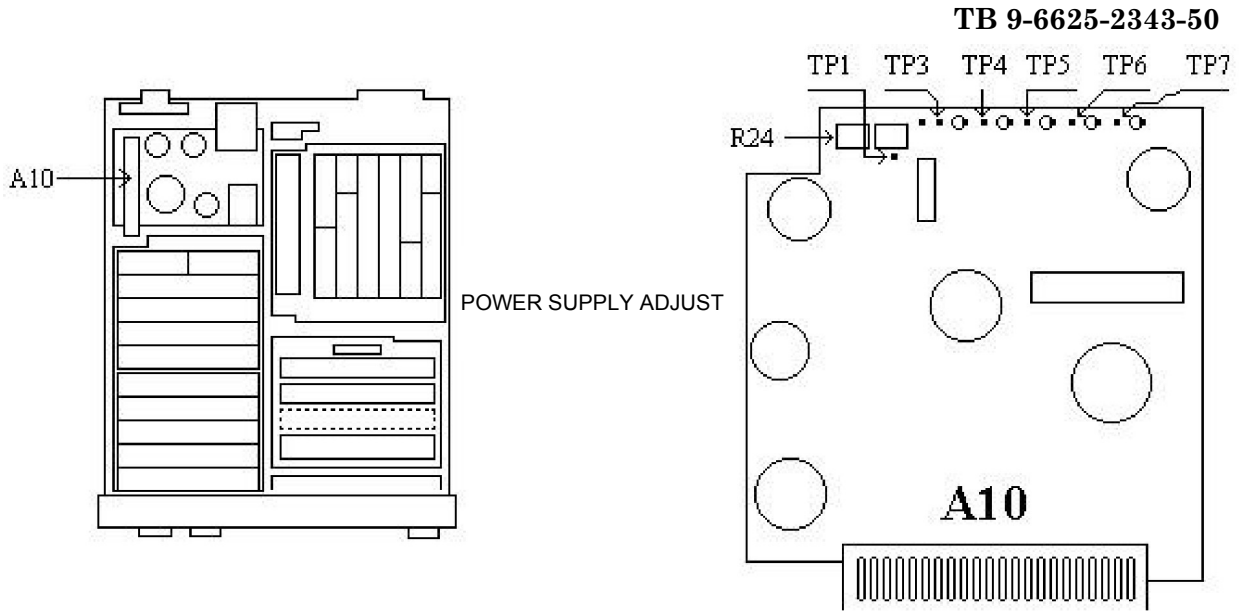
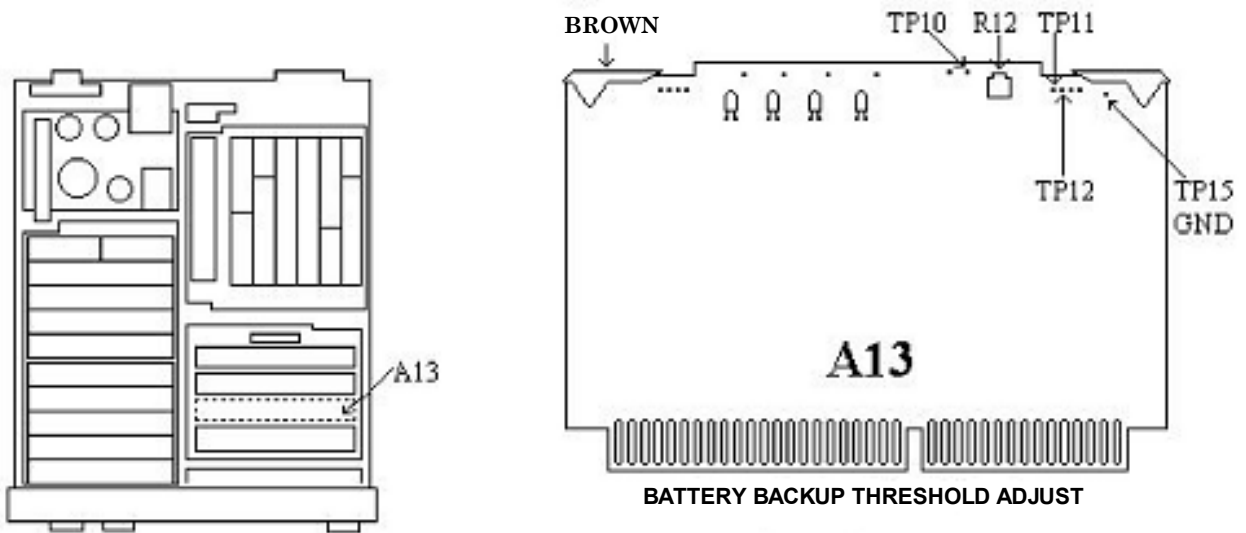

Figure 20. A10 board.
Figure 21. A13 board.
- (1) Connect digital multimeter between TP1 (fig. 20) (ground) and TP3 (fig. 20) (positive), and set digital multimeter to read V dc.
- (2) If digital multimeter indication is not between 14.99 and 15.01 V dc perform **b** below.
- (3) Move positive lead from TP3 to TP4 (fig. 20) and verify digital multimeter indicates between -15.2 and -14.8V dc.
- (4) Move positive lead from TP4 to TP5 (fig. 20) and verify digital multimeter indicates between 4.9 and 5.2 V dc for serial number 2305A to 2616A and between 5.1 and 5.2 V dc for serial number 2618A and above.
- (5) Move positive lead from TP5 to TP6 (fig. 20) and verify digital multimeter indicates between -4.9 and -5.2 V dc for serial number 2305A to 2616A and between -5.4 and -4.9 V dc for serial number 2618A and above.
- (6) Move positive lead from TP6 to TP7 (fig. 20) and verify digital multimeter indicates between 40.5 and 42.5 V dc.
- (7) Disconnect digital multimeter from A10 board.
(8) Connect digital multimeter to A13TP10 (fig. 21) (positive) and A13TP15 GND (fig. 21) (negative).
- (9) Measure and record dc voltage as level No.1.
- (10) Move positive lead from A13TP10 to A13TP12 (fig. 21) and record dc voltage as level No. 2.
- (11) Calculate $\frac{2}{5}$ of level No. 1 and $\frac{1}{6}$ of level No. 2.
- (12) Multiply the lowest voltage calculated in (11) above by 0.95 and record as threshold.
(13) Move positive lead from A13TP12 to A13TP11 (fig. 21) and adjust A13R12 (fig. 21) until digital multimeter indicates within ± 0.05 V of threshold value. (R)
(14) Disconnect equipment setup.
b. Adjustments. Adjust A10R24 (fig. 20) for a digital multimeter indication of 15 V ± 0.01 V dc. (R)